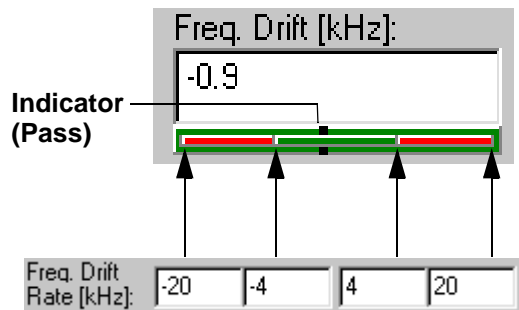

Figure 39 Frequency Drift Limits and Display Bar (Pass)
4 limits are required for each parameter. **Min**, **Min OK**, **Max OK**, and **Max** are used to scale the red/green bars for each of the associated parameters on the **Measurements** windows. (see Figure 39 on Page 54)
- The background area is red when the result is outside the 'OK' limits and changes to green when within the 'OK' limits. (see Figure 39 and Figure 40 on Page 54)